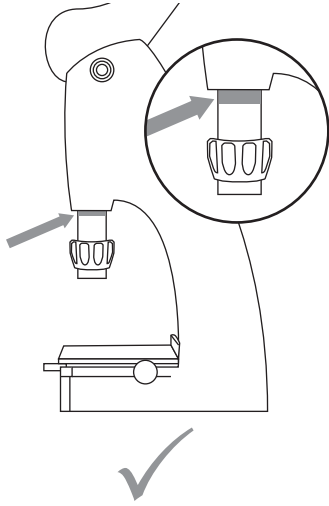

Fig. 7
- Do not operate past the safety gauge with the handle in the upright position. Fig. 7